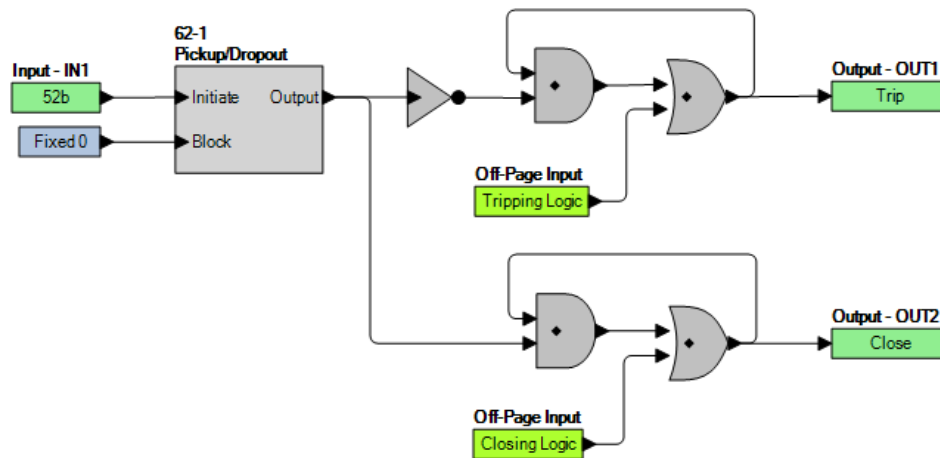

Figure 4-6. Contact Output Seal-In Logic Diagram
To prevent the output relay contacts from opening prematurely, a hold timer (200 to 2,000 ms) can be set with *BESTCOMSPius*. If the protection engineer desires seal-in logic with feedback from the breaker position logic, he/she can provide this logic by modifying the logic for the tripping output. To do this, use one of the general purpose timers (62) and set it for Pickup/Dropout mode. Set the timer logic so that it is initiated by the breaker position input and set the timer for 32 ms pickup and 32 ms dropout. The same can be done for the closing output. Figure 4-6 provides a seal-in logic diagram.